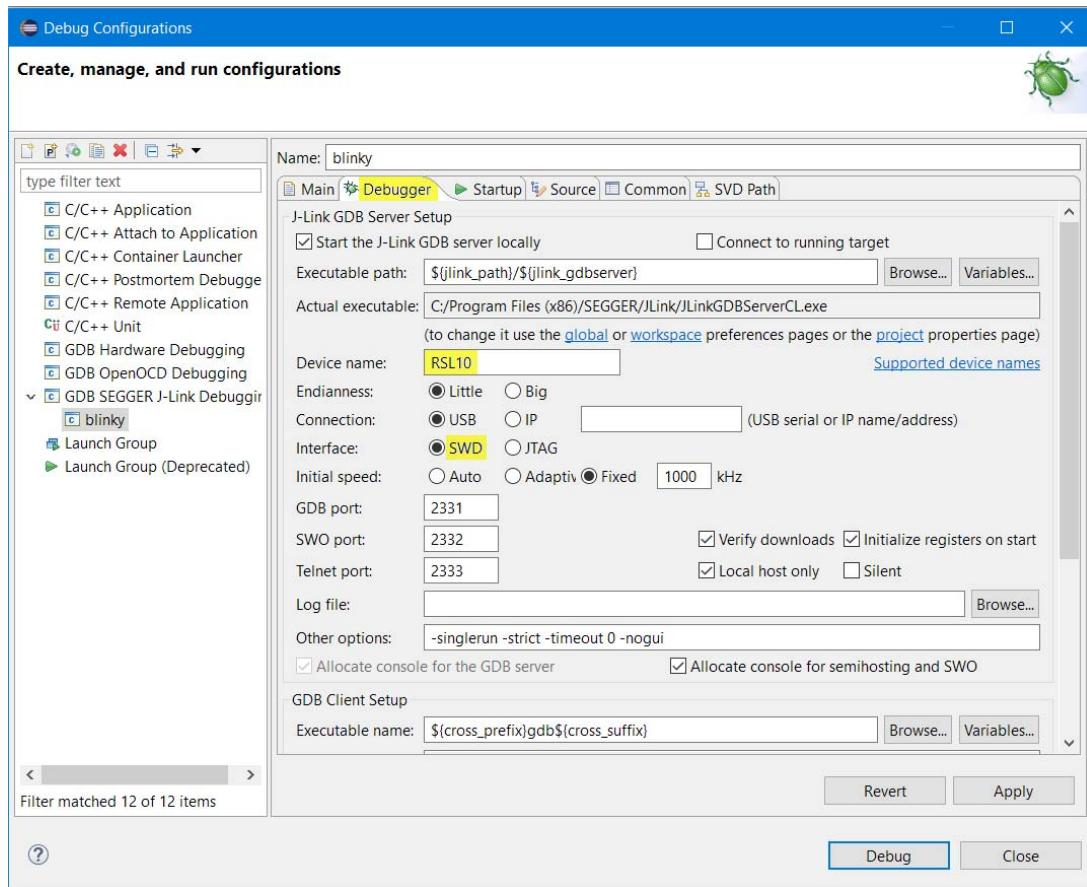

Figure 10. Setting Up a GDB Launch Configuration, Debugger Tab
3. Change to the **Debugger** tab, and enter RSL10 in the **Device Name** field. Ensure that **SWD** is selected as the target interface (as shown in Figure 10).